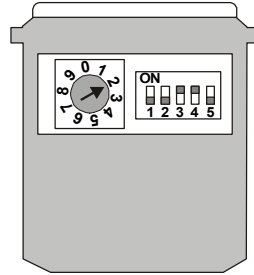

Figure 2. Internal Switch Locations
2. Configure the modem according to your requirements. Refer to Figure 2 to locate the internal switches and to Table 4 for the possible settings.
Note *When operating in a noisy environment, use shielded cables, and connect the cable shield to the GND terminal (see Figure 2).*